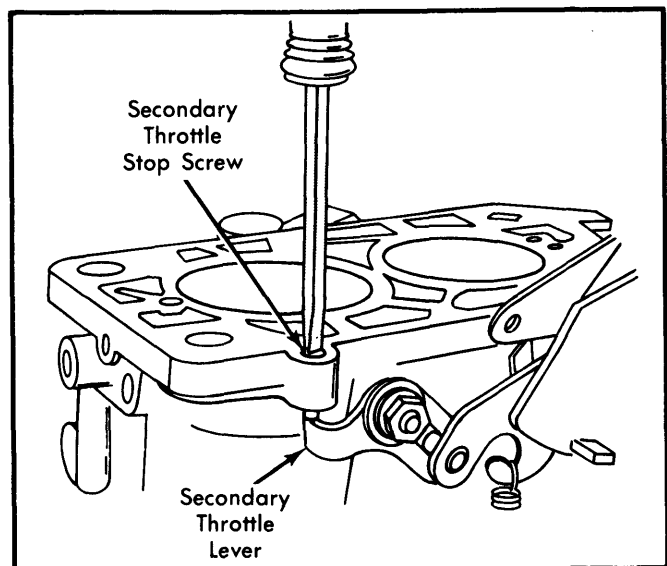

Fig. 5 Adjusting Secondary Throttle Stop Screw
1) Back off secondary throttle stop screw until secondary valve seats in bore. See Fig. 5